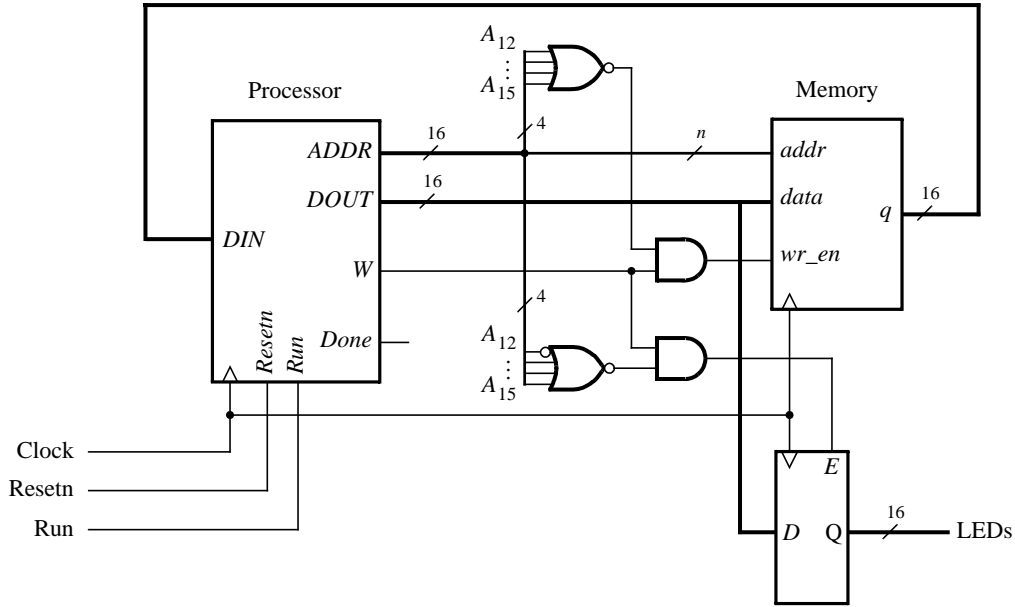

Figure 8. Connecting the enhanced processor to a memory and output register.
loaded into the memory on an active clock edge. This type of memory unit is usually called a *synchronous random access memory* (*synchronous RAM*). Figure 8 also includes a 16-bit register that can be used to store data from the processor; this register might be connected to a set of LEDs to allow display of data on the DE2 board. To allow the processor to select either the memory unit or register when performing a write operation, the circuit includes some logic gates that perform *address decoding*: if the upper address lines are $A_{15}A_{14}A_{13}A_{12} = 0000$, then the memory module will be written at the address given on the lower address lines. Figure 8 shows n lower address lines connected to the memory; for this exercise a memory with 128 words is probably sufficient, which implies that $n = 7$ and the memory address port is driven by $A_6 \dots A_0$. For addresses in which $A_{15}A_{14}A_{13}A_{12} = 0001$, the data written by the processor is loaded into the register whose outputs are called *LEDs* in Figure 8.
2. Write VHDL code for the processor and test your circuit by using functional simulation: apply instructions to the *DIN* port and observe the internal processor signals as the instructions are executed. Pay careful attention to the timing of signals between your processor and external memory; account for the fact that the memory has registered input ports, as we discussed for Figure 8.
3. Create another Quartus II project that instantiates the processor, memory module, and register shown in Figure 8. Use the Quartus II MegaWizard Plug-In Manager tool to create the ALTSYNCRAM memory module. Follow the instructions provided by the wizard to create a memory that has one 16-bit wide read/write data port and is 128 words deep. Use a MIF file to store instructions in the memory that are to be executed by your processor.
Connect the *LEDs* register in Figure 8 to *LEDR*_{15–0} so that you can observe the output produced by the processor.
1. Create a Quartus II project for your circuit and write the VHDL code that includes the circuit from Figure 8 in addition to your *seg7_scroll* module.